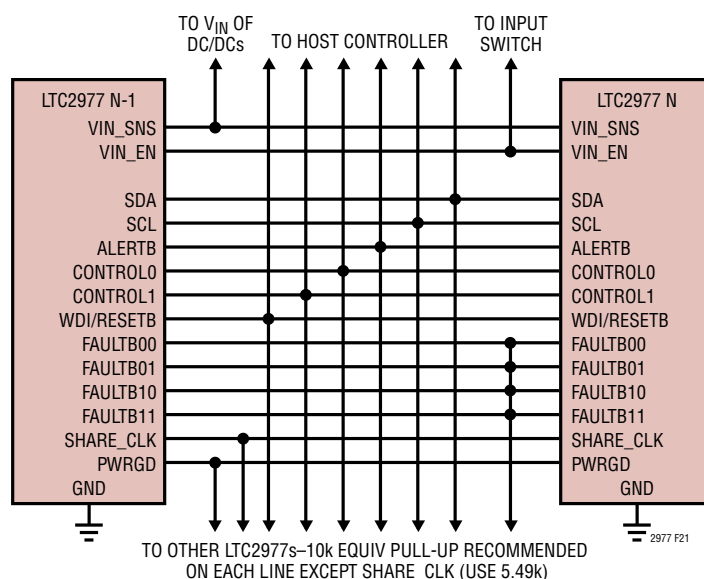

Figure 21. Typical Connections Between Multiple LTC2977s
Figure 21 shows how to interconnect the pins in a typical multi-LTC2977 array.
- The FAULTB_n lines can be connected together to create fault dependencies. Figure 21 shows a configuration where a fault on any FAULTB_n will pull all others low. This is useful for arrays where it is desired to abort a start-up sequence in the event any channel does not come up (see Figure 22).
- PWRGD reflects the status of the outputs that are mapped to it by the MFR_PWRGD_EN command. Figure 21 shows all the PWRGD pins connected together, but any combination may be used.